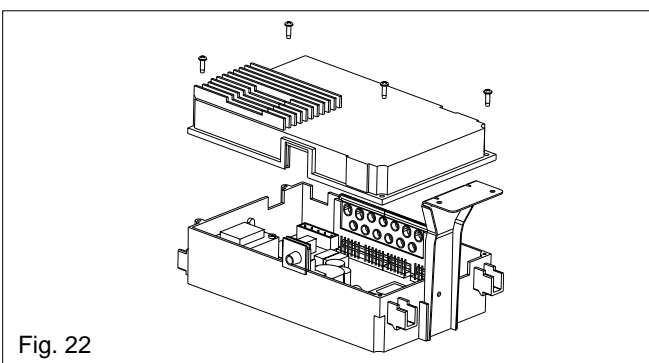

Fig. 22
6.10 PRINTED CIRCUIT BOARD (PCB) (fig. 22)